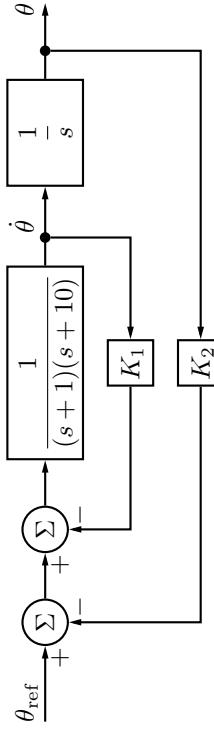

Figure 3.9a
- 3.9 The block diagram in Figure 3.9a shows a cascade controlled DC-motor where $K_1 > 0$ and $K_2 > 0$.